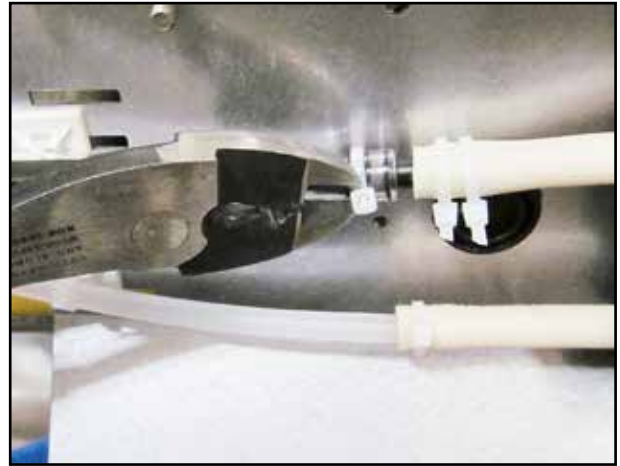

Fig. 3
3. Remove the existing cable-ties. (Fig. 3).